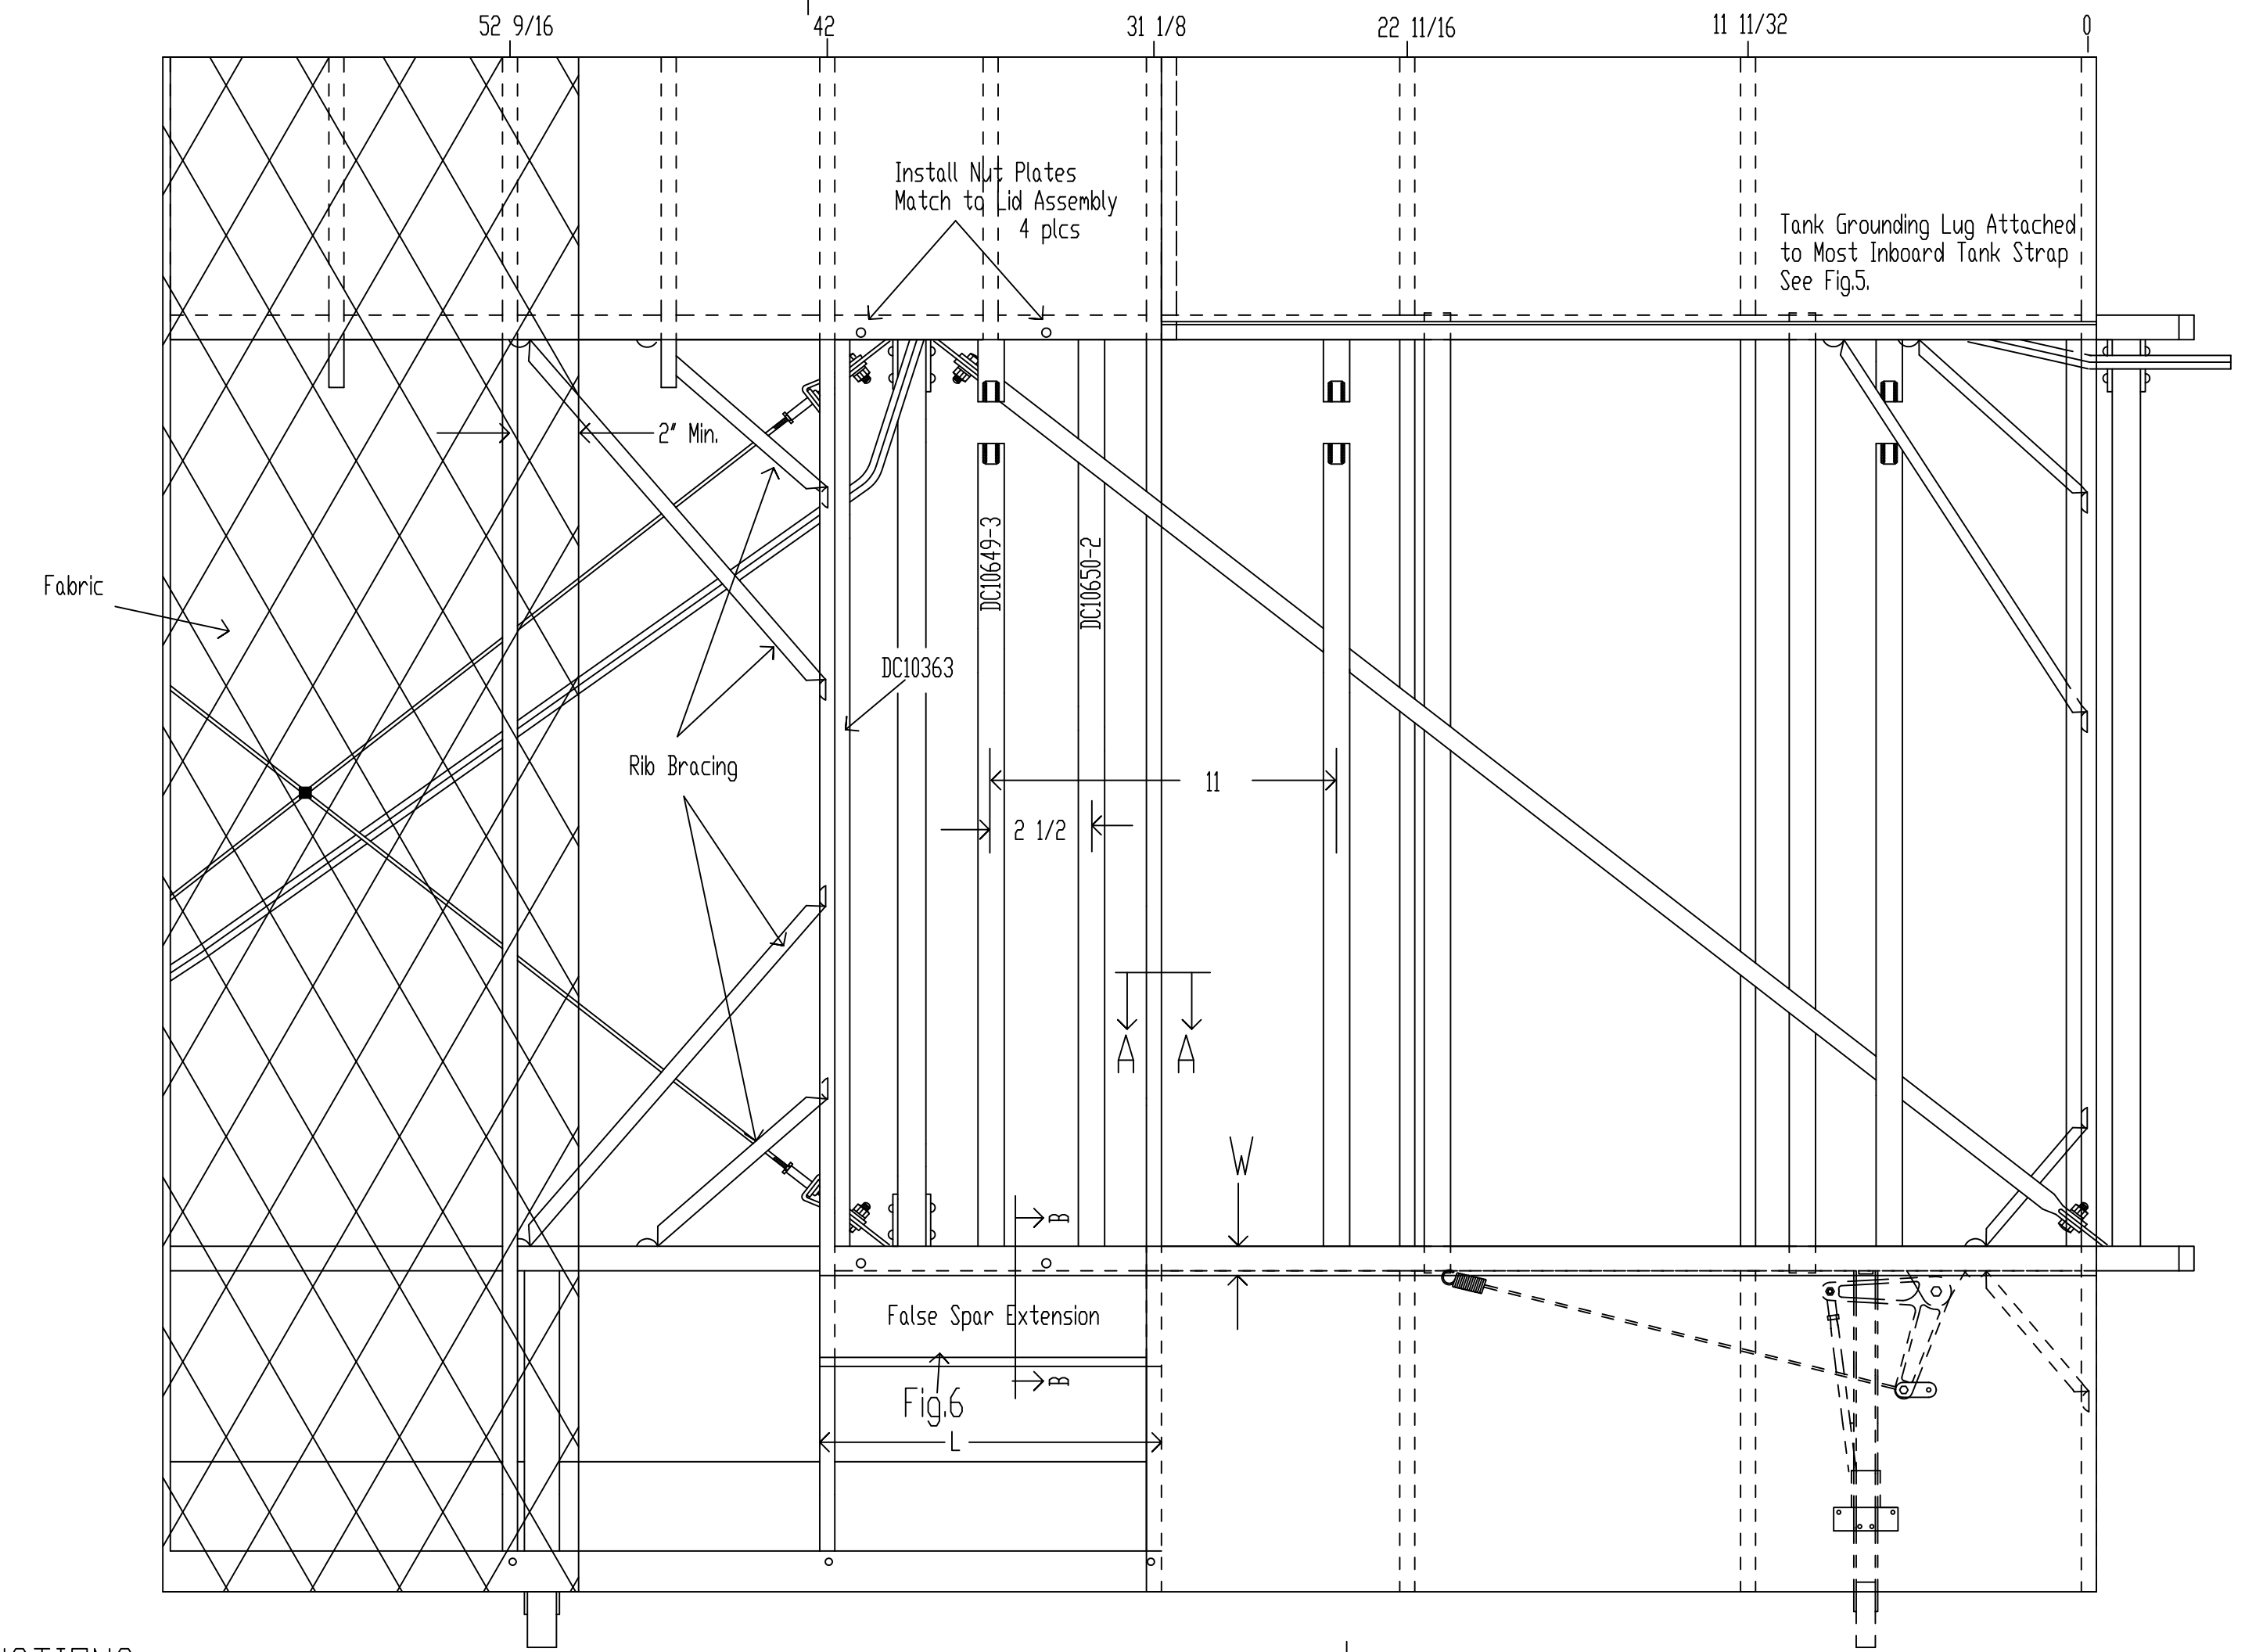
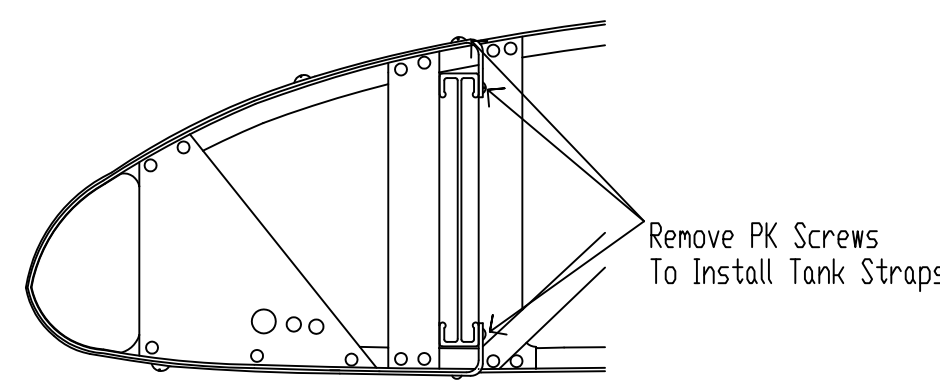

Fig.2
Fig.7
- 4- Install Tank Straps as shown in Fig.5. Drill .191 holes at a distance of 11 1/2" from centerline of existing straps (Fig.2). The leading edge and false spar screws must be removed at the spar caps (Fig.7) to facilitate tank strap installation. It is best to install the false spar extension (Fig.6) and reinstall the cable fairlead bracket (Fig.8) at this time. Glue Anti-Chaffe Felt to tank straps.